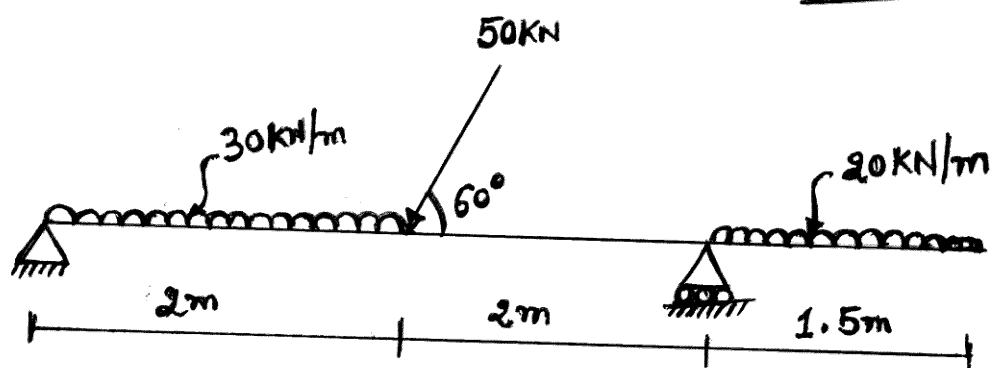

Fig:3
- Q.3** (a) Find support reactions for the beam shown in Fig:3. **07**